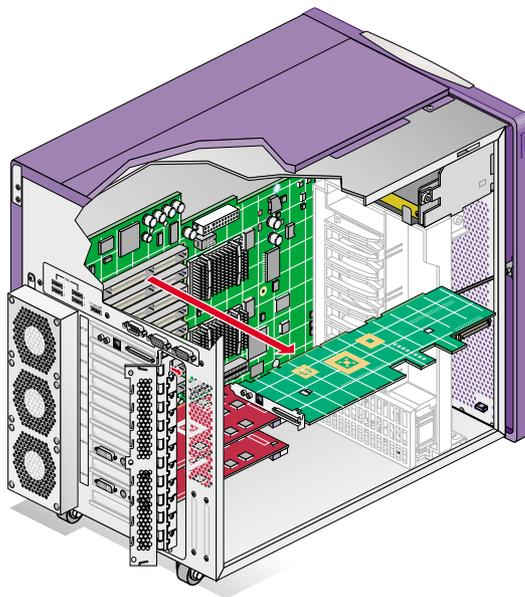

Figure 3-18 Removing the Base I/O Board
3. Gently grasp both ends of the base I/O board. Then pull it straight out until it clears the PCI slot. Tilt the front end of the I/O board upward until it clears the edge of the chassis. Then remove the I/O board from the enclosure and place it in a safe location (see Figure 3-18).